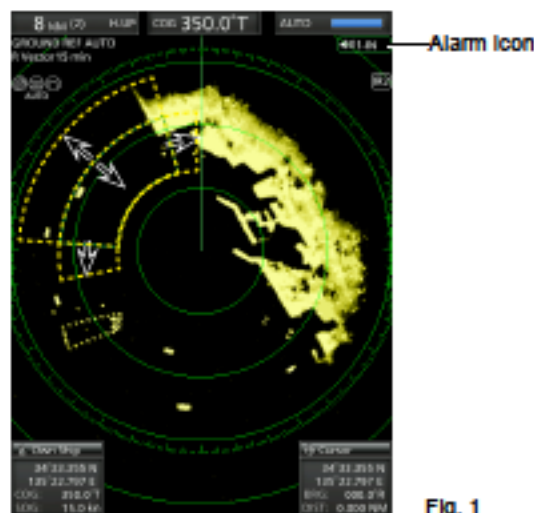
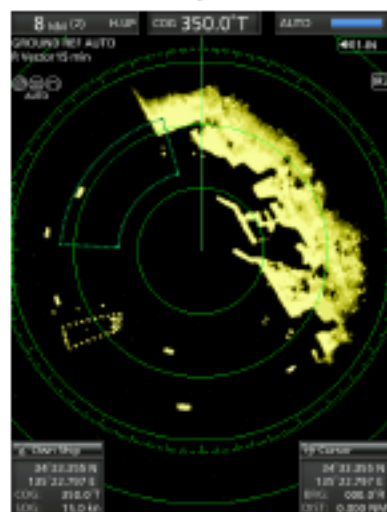

Fig. 1
Fig. 2
- The Alarm Icon (🚨) on the upper right of the screen and the preset alarm zone(s) is displayed. (Fig. 1)
- The starting zone is displayed on the screen. (Fig. 1)
- ① Push [CLEAR]/[取消] to stop the alarm.
- ① Push [ALM1/2]/[报警 1/2] to cancel the alarm signal and function.
- "🚨" and the preset alarm zone is displayed. (Fig. 2)